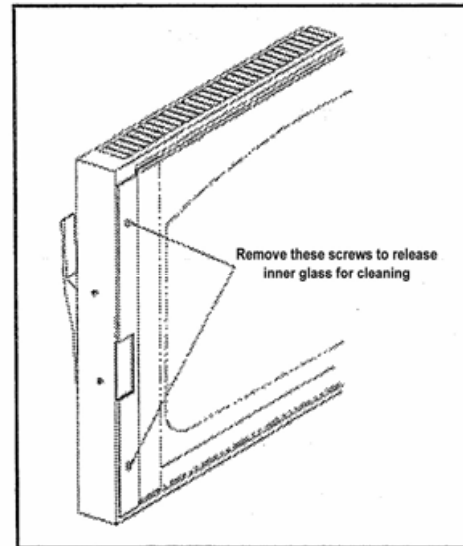

Figure 3-1. Removing the inner door glass (BX-4 only).
5. Open the inner door glass by removing two screws shown in Figure 3-1. The glass is hinged to allow a more thorough cleaning (BX-4 only).